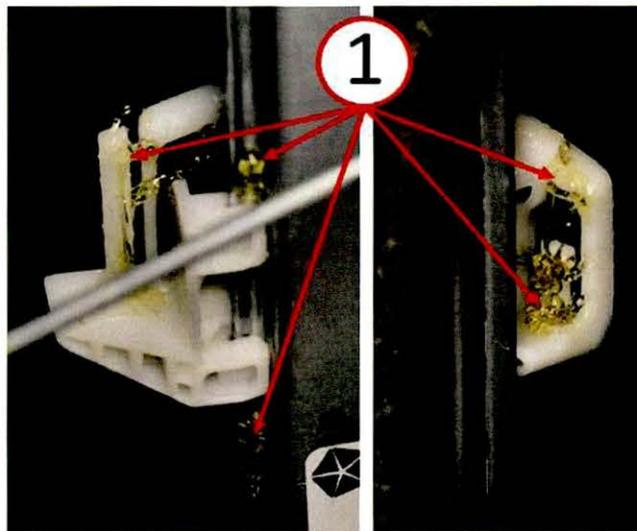

Fig. 8 Grease Window Lift Plate
8. Apply Nye® Synthetic Lubricant or equivalent to all glass contact surfaces of the window regulator lift plate, including the underside of the glass retainer hook. Also apply lubricant to the window regulator track above and below the liftplate (Fig. 8).